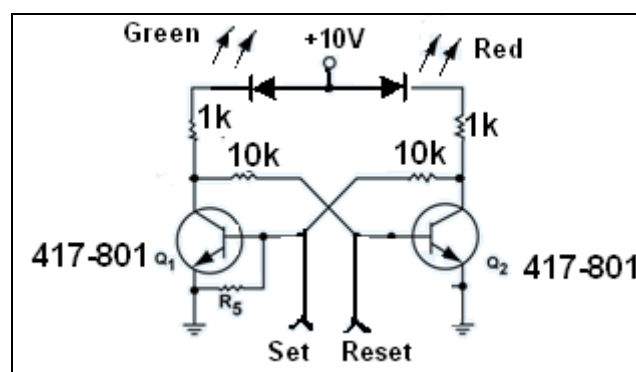

Fig. 1-2 Bistable Multivibrator
9. Construct the circuit shown in Fig. 1-2. Turn on the Trainer and set the supply voltage to +10 volts. As shown, connect one end of a long jumper wire to ground. Temporarily leave the other end disconnected.